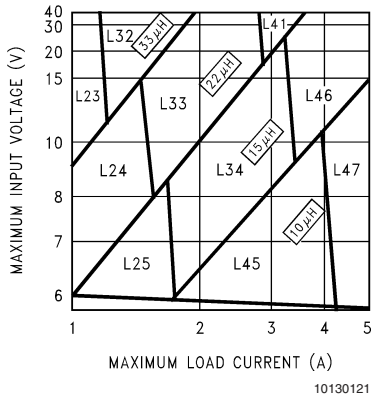
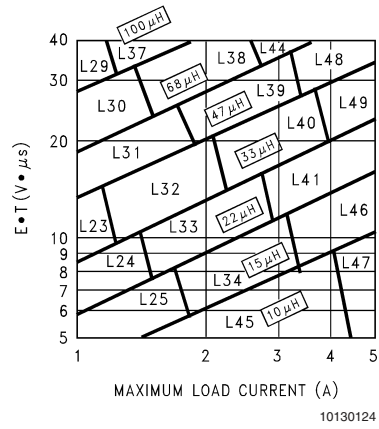

FIGURE 3. LM2677-3.3
FIGURE 6. LM2677-ADJ
Step 3: Determine the inductor required by using one of the four nomographs, *Figure 3* through *Figure 6*. Table 1 provides a specific manufacturer and part number for the inductor.
Step 5: Determine an input capacitor from Table 4 for fixed output voltage applications. Use Table 2 to find the specific capacitor type. For adjustable output circuits select a capacitor from Table 2 with a sufficient working voltage (WV) rating greater than $V_{in\ max}$, and an rms current rating greater than one-half the maximum load current (2 or more capacitors in parallel may be required).
Step 3: Use the nomograph for the 3.3V device, *Figure 3*. The intersection of the 16V horizontal line ($V_{in\ max}$) and the 2.5A vertical line ($I_{load\ max}$) indicates that L33, a 22 μ H inductor, is required.
Step 3: To use the nomograph for the adjustable device, *Figure 6*, requires a calculation of the inductor Volt \cdot microsecond constant ($E \cdot T$ expressed in $V \cdot \mu s$) from the following formula:
Using *Figure 6*, the intersection of $27V \cdot \mu s$ horizontally and the $2A$ vertical line (I_{load} max) indicates that L38, a $68\mu H$ inductor, should be used.
Important Note: When using the adjustable device in low voltage applications (less than $3V$ output), if the nomograph, *Figure 6*, selects an inductance of $22\mu H$ or less, Table 6 does not provide an output capacitor solution. With these conditions the number of output capacitors required for stable operation becomes impractical. It is recommended to use either a $33\mu H$ or $47\mu H$ inductor and the output capacitors from Table 6.